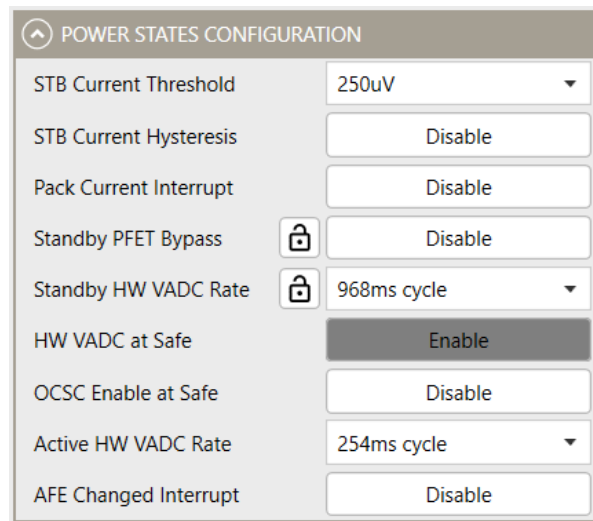

Figure 12: HW VADC at Safe Is Enabled
- During configuration, the IC should be in safe mode, with all of the MOSFETs turned off. All of the voltage monitoring protections are disabled in safe mode by default. If a protection is required in safe mode, enable the “HW VADC at Safe” setting (see Figure 12).